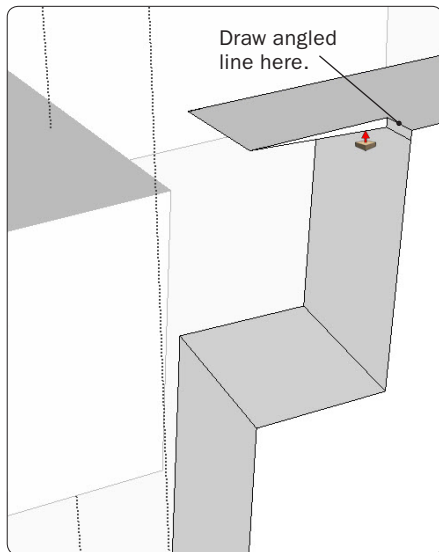

Figure 14. Use the Push/Pull Tool to remove one last sliver of waste to complete the dovetail joint.
Step 9 As shown in Figure 14, I've pulled the stretcher away from the side to show the remaining sliver that must be removed from the side component.